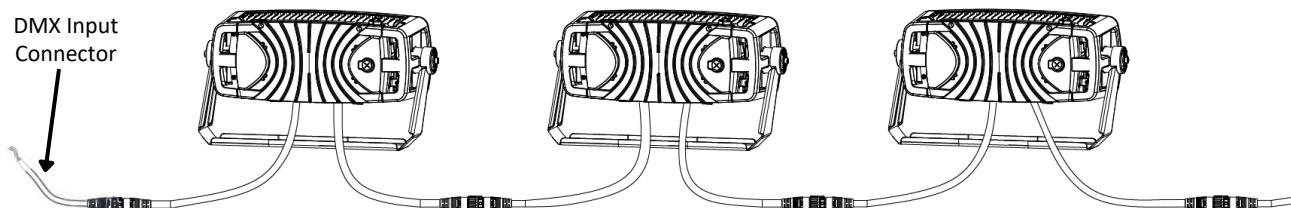

Fig. 23
- The fixture includes a DMX Output cable with connector to connect the controls of multiple fixtures in a series. Refer to Fig. 23 for an example of connecting fixtures in series. **Note:** each fixture must be connected to it's own power supply.